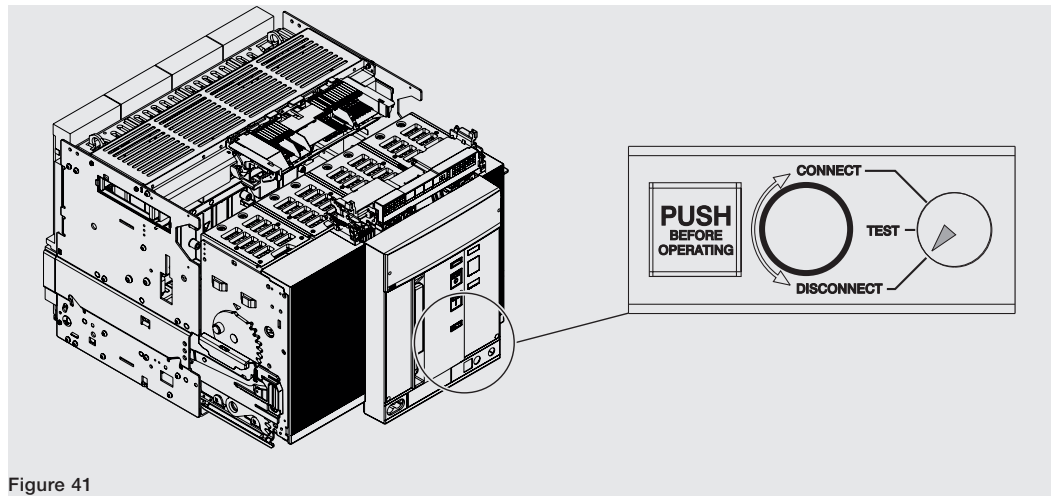

Figure 41
6. Make sure that the signalling device indicates the **DISCONNECT** position. See Figure 41.